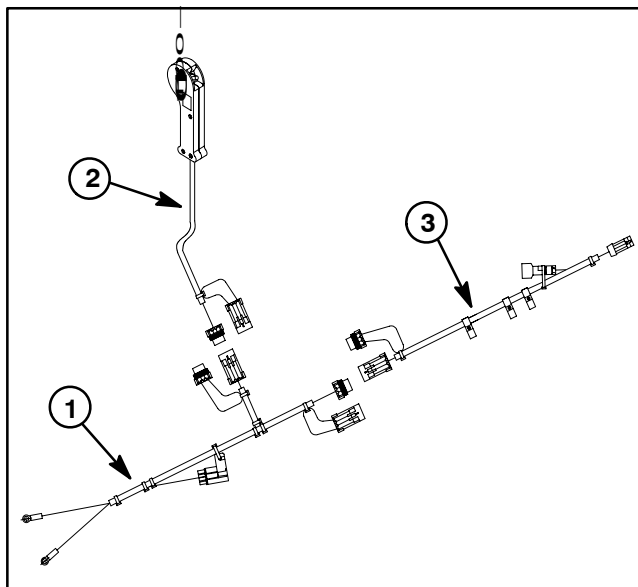

Figure 1
Electrical power to the Topdresser 2500 is provided by the tow vehicle battery. Three (3) wire harnesses are used on the Topdresser 2500 (Fig. 1). The battery wire harness attaches to the tow vehicle battery. The switch wire harness connects the control handle to the battery wire harness. The third harness, the trailer wire harness, resides on the Topdresser and provides electrical power to the hydraulic manifold solenoids.